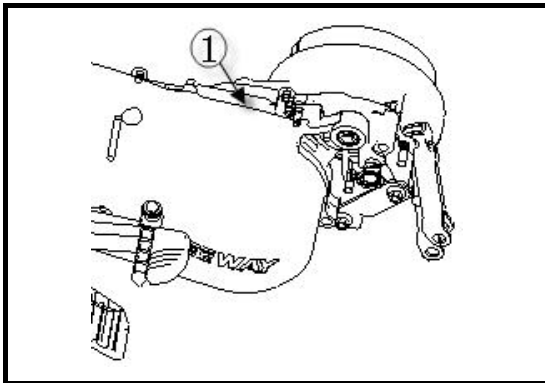

Fig. 1-2
2. The serial number of engine is printed on the shell of crankcase of engine and shall be in the format of KW1E40QMB-4*□□□□□□□□*. Please see fig. 1-2.